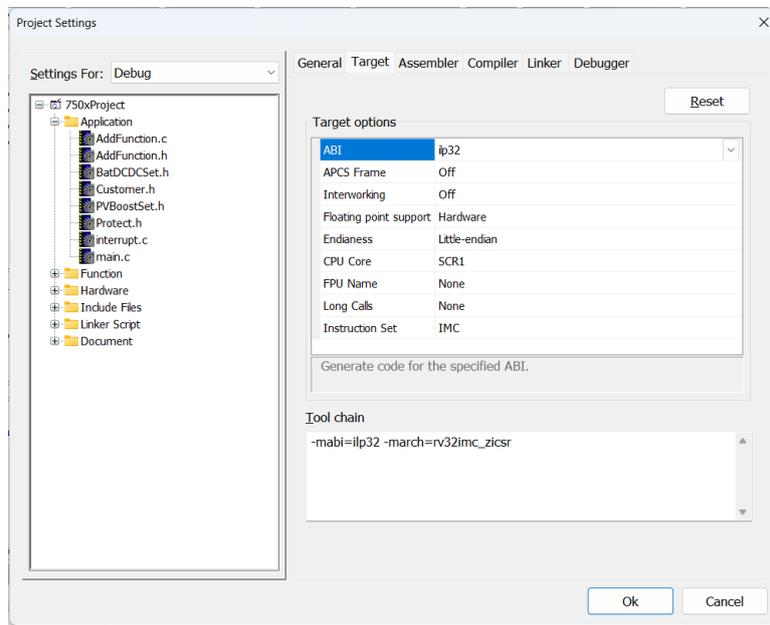

Figure 1-30
2. Target: As shown in Figure 1-30, the choice of chip type, please refer to the “FTM32 C Programming Guide (Simplified Chinese)” for specific descriptions.